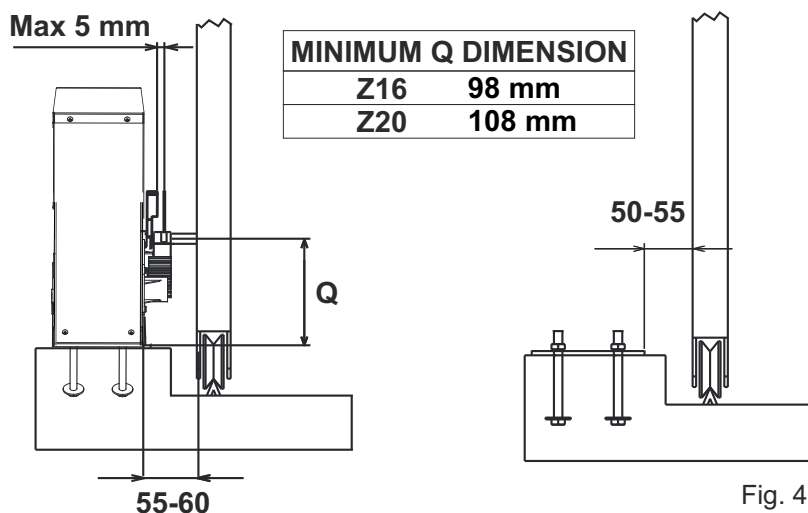

Fig. 4
- 2.3. Before concreting the plate, make sure that it is perfectly levelled and that the distance of 50-55 mm as shown in Fig. 4 is respected
4.1. Secure the gearmotor to the foundation plate by using the supplied screws (Fig. 6), then adjust its lateral position and height (Fig. 7) to comply with the dimensions mentioned in Fig. 4